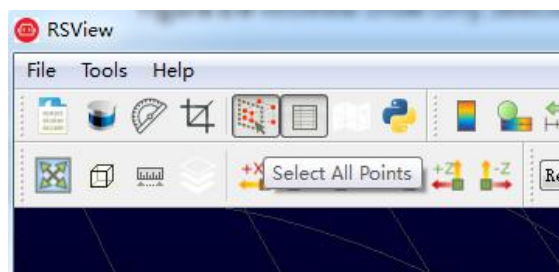

Fig C-12 RSView Select All Points
8. Click the **Select All Points** tool. This turns your mouse into a point selection tool(Fig C-12).